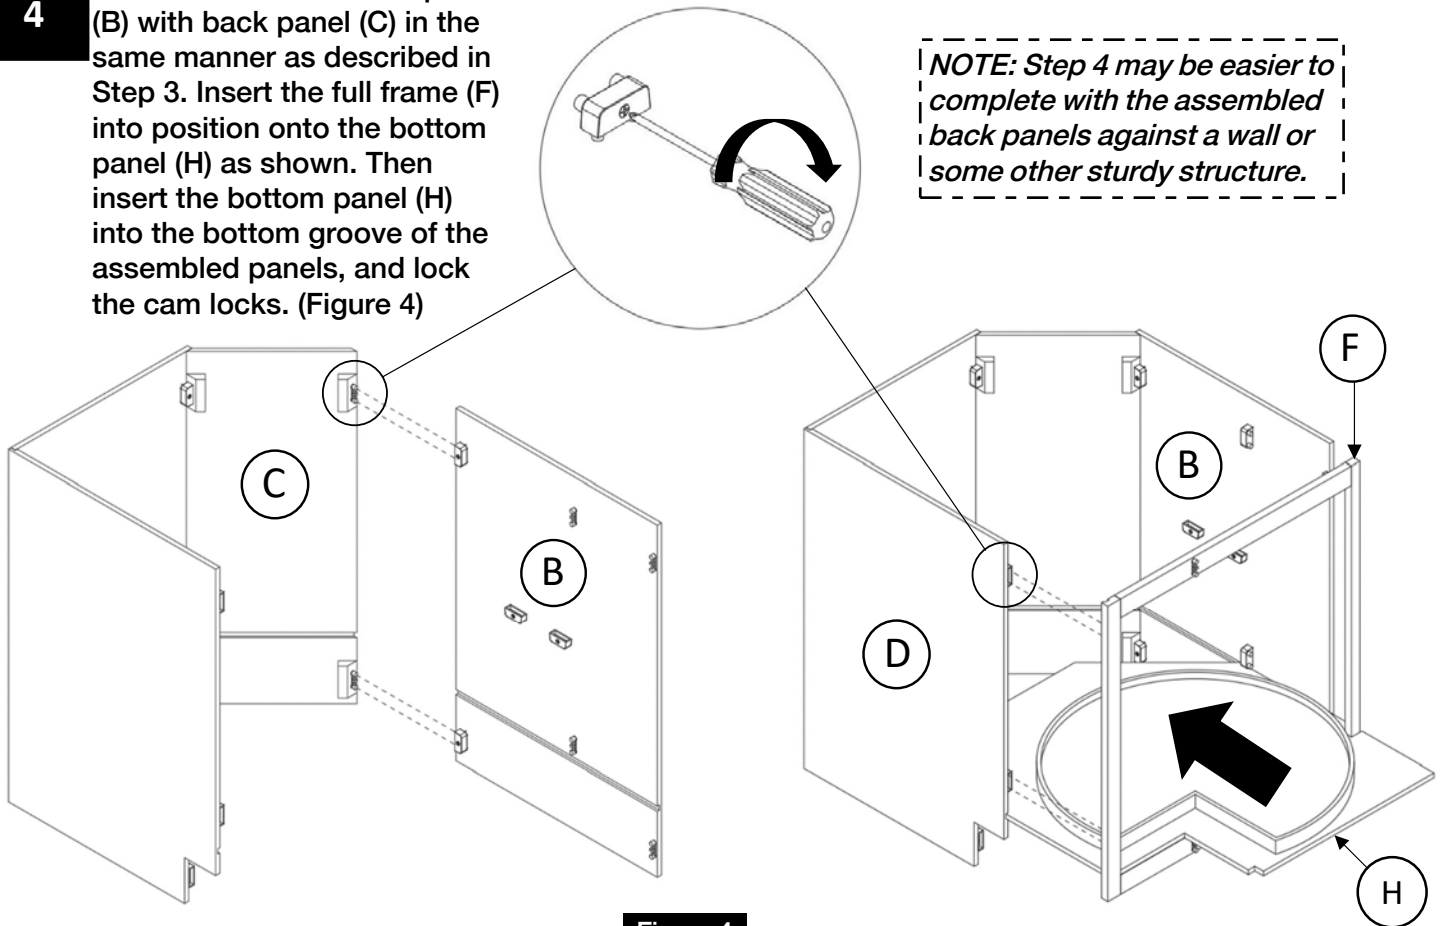

Figure 4
Assemble the back side panel (B) with back panel (C) in the same manner as described in Step 3. Insert the full frame (F) into position onto the bottom panel (H) as shown. Then insert the bottom panel (H) into the bottom groove of the assembled panels, and lock the cam locks. (Figure 4)